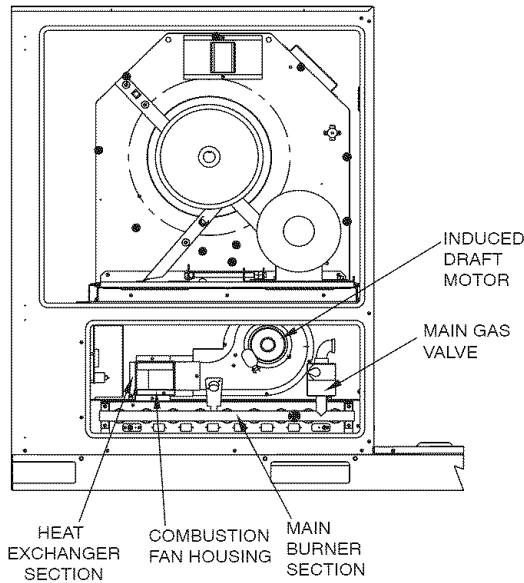

Fig. 6 – Typical Gas Heating Section
**NOTE:** When properly installed, the flue hood will line up with the combustion fan housing. (See Fig. 6.)